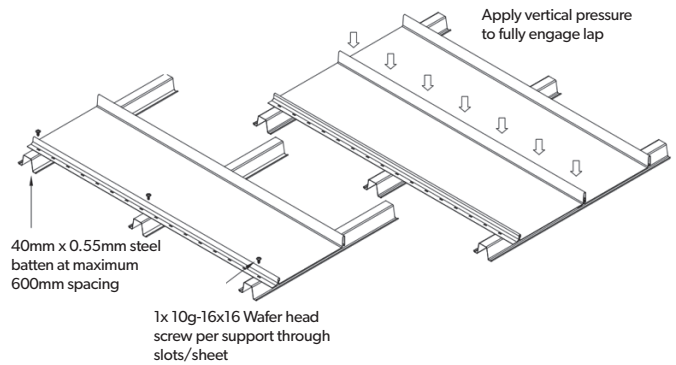

Figure 11.2.2:
2. Screw fix the under lap edge to battens or ply as shown in Figure 11.2.1 and Figure 11.2.2 taking care to place the screws to the centre of the slotted holes to allow for expansion and contraction.